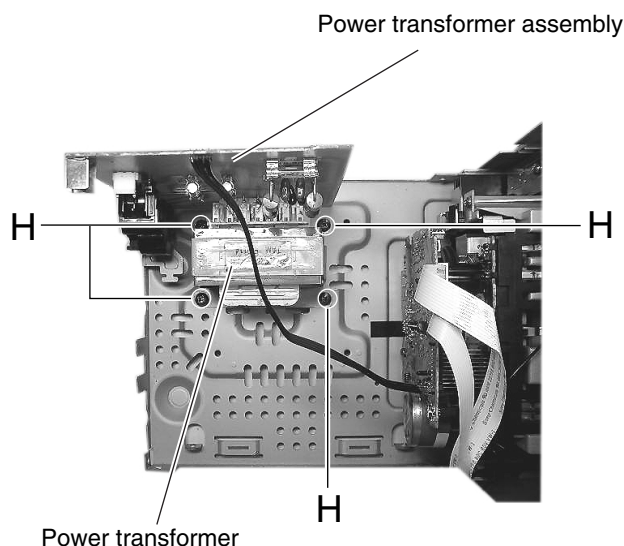

Fig. 18
■ Removing the the power transformer assembly (See Fig. 18)